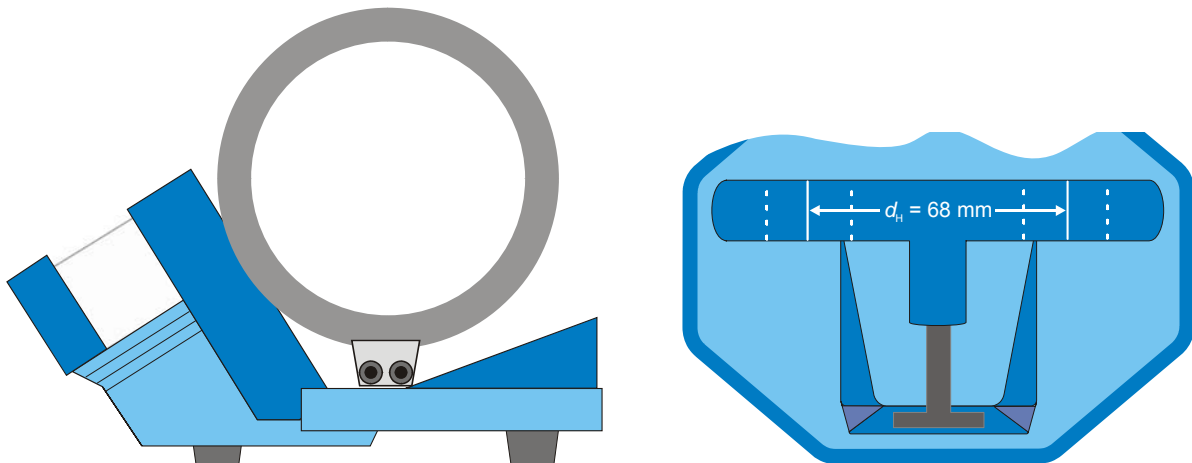

Fig. 1 Setting up the coils for a transverse field
- For Helmholtz configuration $d = r$ the outer edges of the coil base should be flush with the dashed lines (refer to Fig. 1).